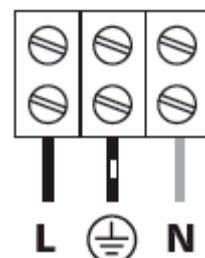

Fig 5
- For the GL1201CA and GL1201SA versions (see Fig.5):